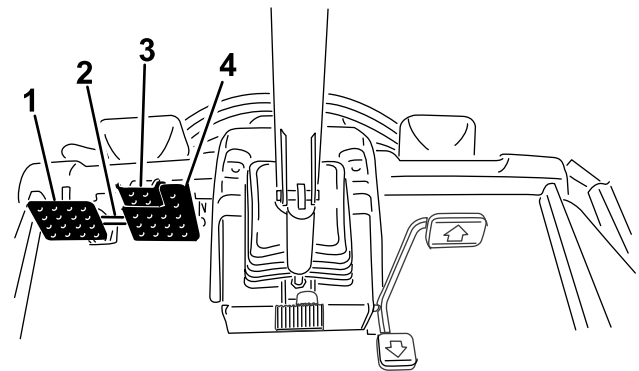

Figure 28
- Disconnect the pedal-locking latch (Figure 28).